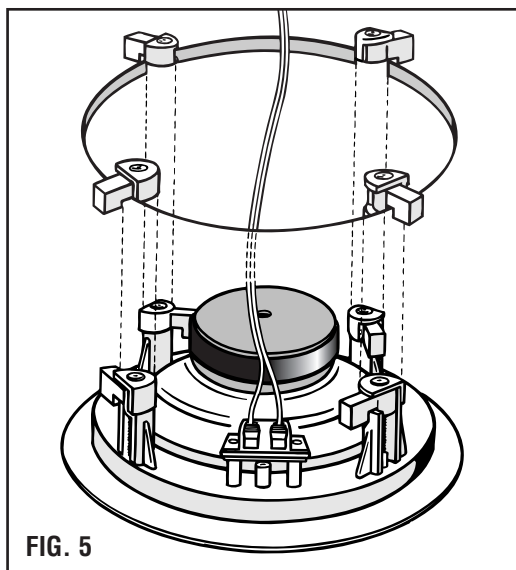

FIG. 5
6. See Fig. 5. With the speaker wire attached to the speaker, slide the speaker up inside the cut-out hole. Center the speaker in the cut-out hole and turn the four locking screws clockwise until the speaker is drawn up snugly to the wall board from behind, clamping the speaker in place. Try to tighten each screw equally. Replace the speaker grill by gently pressing it into place.